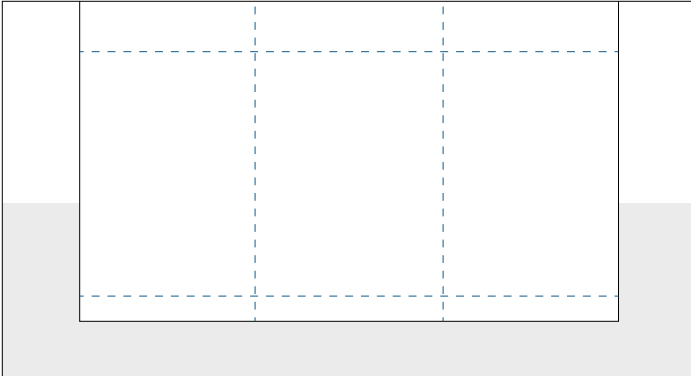

Figure 13.1
1. Confirm grid line layout as per final project (approved) drawings and layout midfield grid lines to align trims to. (Figure 13.1).